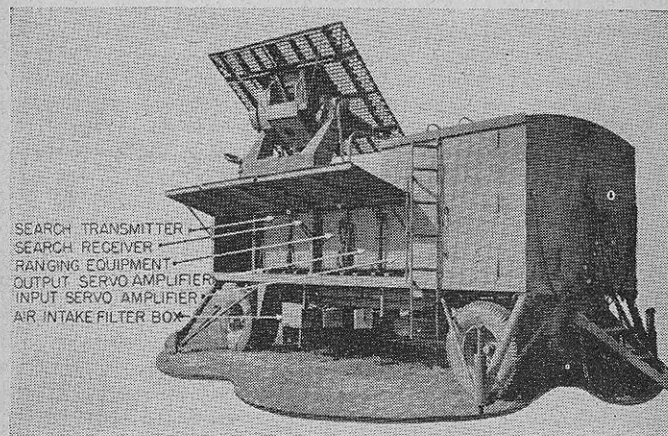

FIGURE 6.—Trailer in operating position—right side.
e. Horizontally hinged doors are provided along the sides of the trailer to give access to the various electrical components. Figure 6 shows these doors on the right side of the trailer. This figure also shows the antenna in its raised position.
b. The remainder of the trailer is taken up with the radio components and associated control and auxiliary equipment. The arrangement of these units is shown in figures 6 and 10. Each of the components represented in the figure is housed in a steel box 31 inches high and 41 inches long. The widest